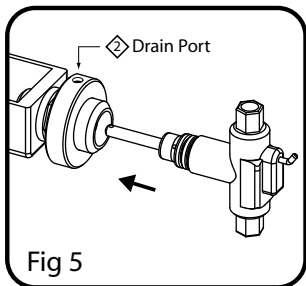

Fig 5
7. Thread fluid end (9) with installed seal assembly and plunger into adaptor body (6) **[FIG 5]**
8. Connect plunger with supplied pin (1)
9. Loosen lock nut (5) that was temporarily tightened in Step 5 and rotate entire assembly until fluid end (9) is oriented correctly and re-tighten lock nut (5)
10. Install tube fitting (10) in drain port (Drain port shown in FIG 5)